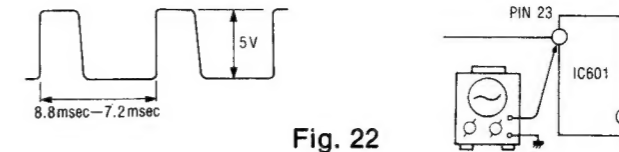

Fig. 22
2. Measure the time of the input scanning signal with an oscilloscope as shown in fig. 22.
3. If the measured value is different from the signal shown (fig. 22) make the necessary adjustment as follows: